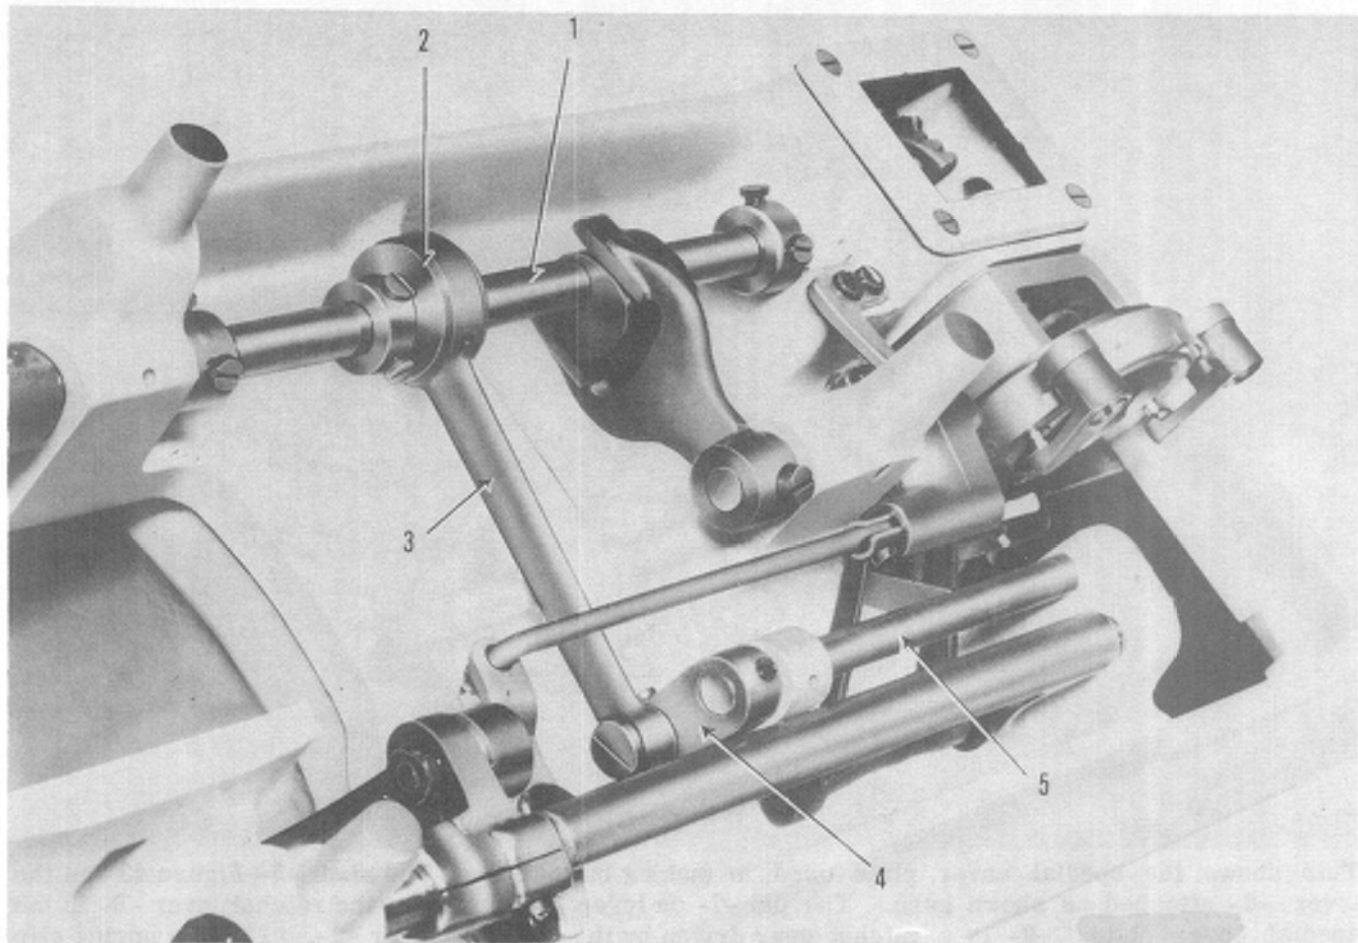
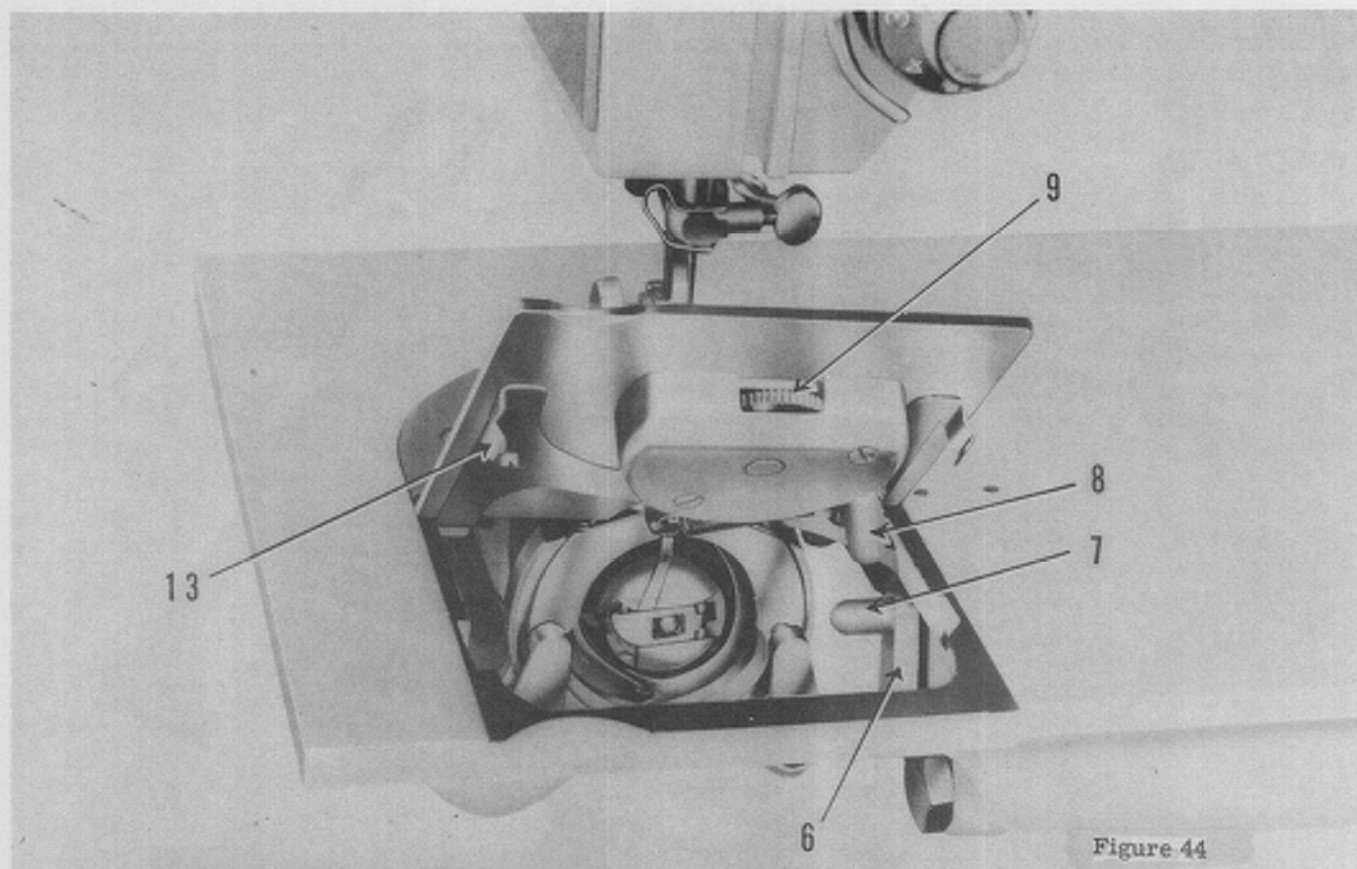
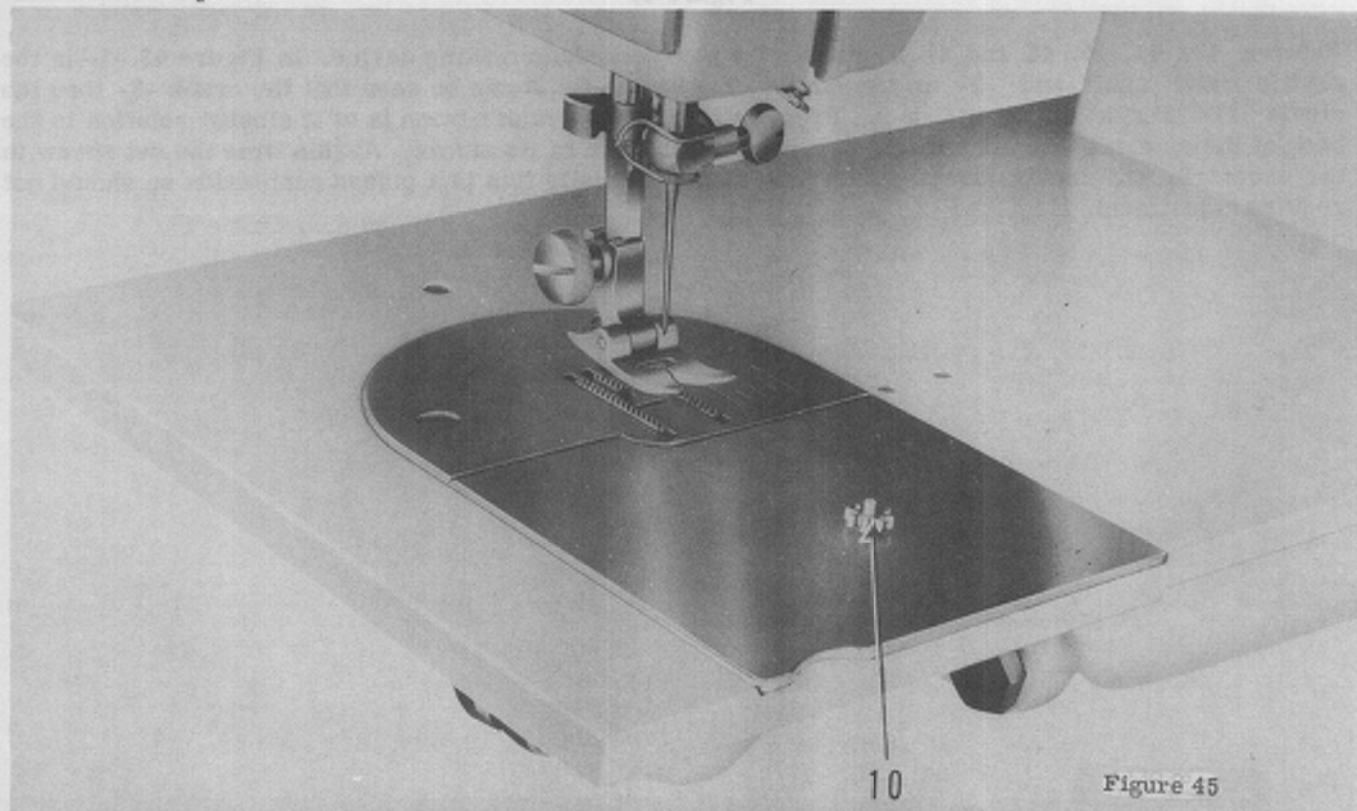

Figure 43
Figure 44
Figure 45
Power from the shuttle drive shaft (Figure 43 No. 1) is transmitted to an eccentric (Figure 43 No. 2) from the eccentric to a connecting rod to a clevis (Figure 43 No. 4) from the clevis to a rock shaft (Figure 43 No. 5) and from the rock shaft to an oscillating lever (Figure 44 No. 6) and its knock pin (Figure 44 No. 7).
A special hand hole cover plate is provided which has a ratchet lever (Figure 44 No. 8) and a ratcheted gear (Figure 44 No. 9). The ratcheted gear drives a pinion gear (Figure 45 No. 10). The pinion gear drives the material feed plate. The material feed plate covers the feed dogs and moves the material while the needle swings from side to side in such a manner that a buttonhole is formed. A template Figure 46, which snaps into the material feed plate governs the size and shape of the buttonhole. Ten templates for various size and shapes of buttonholes are provided.
1. The automatic buttonhole cover plate must be firmly positioned at all times. The cover spring (Figure 44 No. 13) may be repositioned if the cover plate does not fit properly.
2. If the ratcheted gear becomes sticky, it may be lubricated through the opening in the ratchet housing (Figure 44 No. 9).
3. If the stroke of the oscillating lever is too short the pinion gear will rotate in an irregular manner. The eccentric on the shuttle drive shaft (Figure 43 No. 2) may be rotated to increase the stroke of the oscillating lever, however, since the entire mechanism is set and pinned at the factory this adjustment is RARELY necessary.
Figures 43, 44, 45, 46 and 47 illustrate the new buttonhole making device. In Figure 43 -1- is the shuttle drive shaft and -2- an eccentric attached to it. It can be seen that the crank -3- thru the clevis -4- rocks the shaft -5-. Properly timed the crank motion is at it closest relation to the back of the machine when the needle bar is in the bottom of its stroke. At this time the set screw in the eccentric will locate directly over the shaft. Actually this is a pinned connection so should not require adjustment.
This shows the special cover plate used in making buttonholes. The shaft -5- Figure 43 has the lever -6- attached as shown here. The pin -7- on lever -6- motivates the ratchet lever -8- in the special cover plate. -9- is a ratchet gear driven by the action of lever -8-. -13- is a spring clip to secure the plate.
Pinion gear -10- is driven by the previously described mechanism and because of the timing mentioned in Figure 43 rotates only when the needle is out of the material sewn.